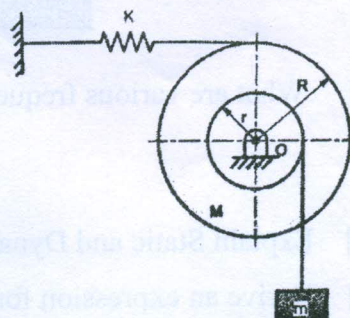

Fig.2
- [B] Find the natural frequency of a system shown in fig.2, Take $K=1000 \text{ N/m}$, $M=10 \text{ kg}$, $m=2 \text{ kg}$, $R=50 \text{ mm}$ and $r=30 \text{ mm}$ [5]